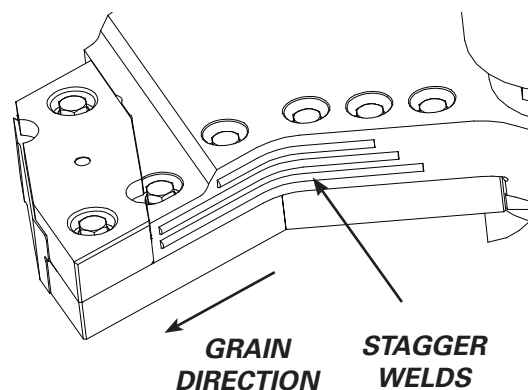

FIGURE 5-21
4. To hardsurface the area alongside the upper blades, establish the pattern with 3 or 4 passes of build-up. These beads should run parallel to the blades from behind the Saber Tip to approximately the midpoint of the primary blade (see figure 5-21).